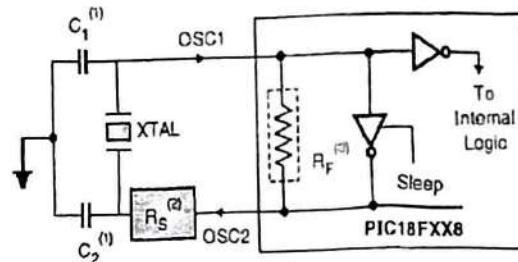

Fig. 1.11.4 : Ceramic resonators
- In all these modes a crystal or ceramic resonator is connected between the pins OSC1 and OSC2 as shown in the Fig. 1.11.4. Crystal oscillator is kept in metal housing with two pins where you have the frequency written at which crystal oscillates. Two ceramic capacitor of different values connected on the terminal OSC1 and OSC2 respectively, whose other end is connected to the ground, are used for different frequencies of operation.
- Fig 1.11.4 shows ceramic resonators. A centre pin of the element is the ground, while end pins are connected with OSC1 and OSC2 pins on the microcontroller. A series resistor R_s is required to strip cut the crystal while the value of R_f varies with crystal chosen.